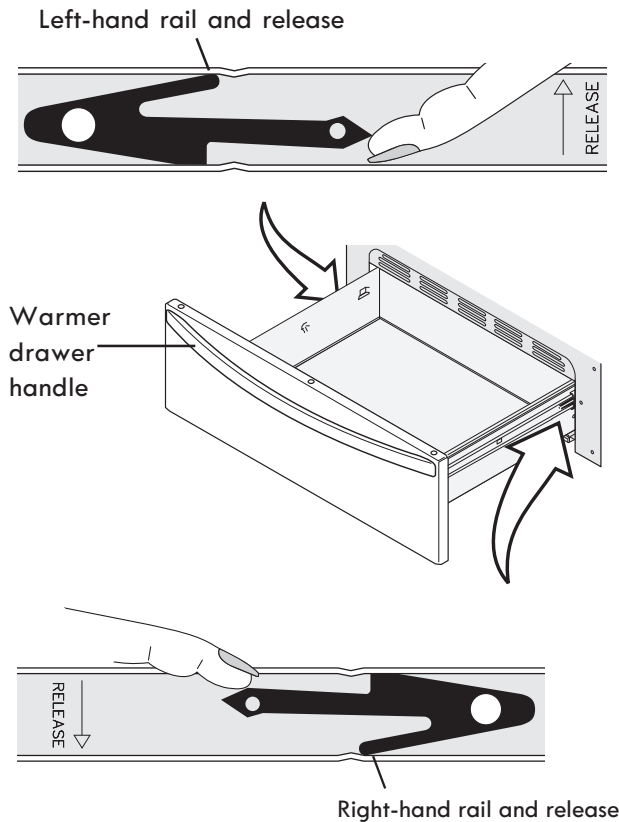

Figure 33: Removing the warmer drawer
3. On left warmer drawer rail, locate black release lever and press up with finger while pulling out slightly on the oven drawer handle. On right warmer drawer rail, locate black release lever and press down with finger while pulling out slightly on the warmer drawer handle (See Figure 33).